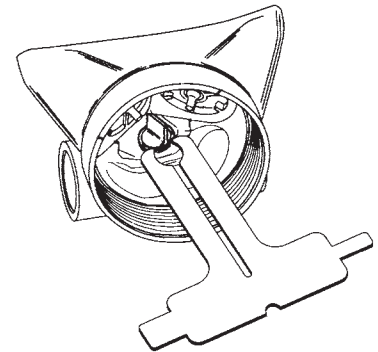

Figure 3
18. Remove and discard the orifice o-ring (item 26).
20. Use the Pre-Adjustment Tool (G1001-68) to press the c-clip (item 18) off of the Vane Adjustment Switch (item 21). *Figure 3*.
22. Remove and discard the o-ring (item 22).
23. Grasp the exhaust tee (item 8) and stretch it off of the case.
24. Remove and discard the exhaust valves (item 7).